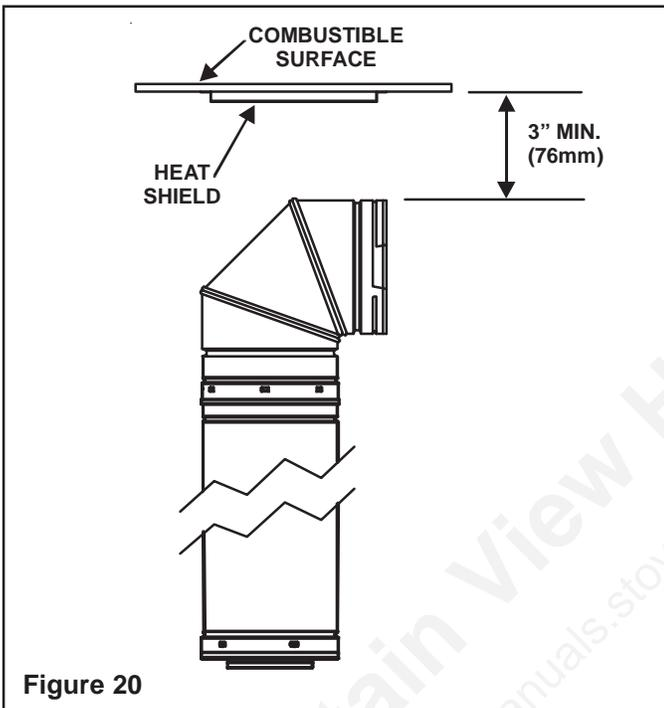

Figure 20
1. Determine if the heat shield is required. Do so by measuring the vertical distance between the top horizontal surface of the elbow to any combustible surface above. If the distance is more than 4 inches, the heat shield is **NOT** required. If it is 4 inches or less, the heat shield is **REQUIRED**. Install per the following steps. See Figure 20.